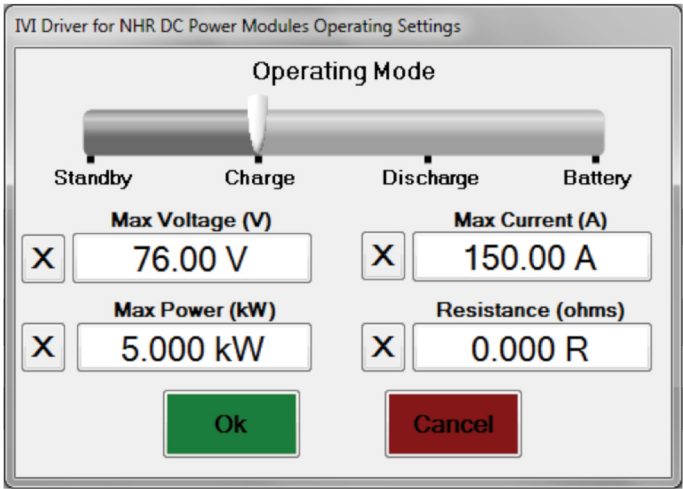

FIGURE 5
Each test channel is an 8kW source, a 12kW sink and operates as a fully programmable power supply, load, or battery. All of these operating modes support constant-voltage (CV), constant-current (CC), and constant-power (CP) regulation (Fig. 5). More than one regulation mode may be enabled at the same time, creating standard charge profiles like CCCV and CPCV.